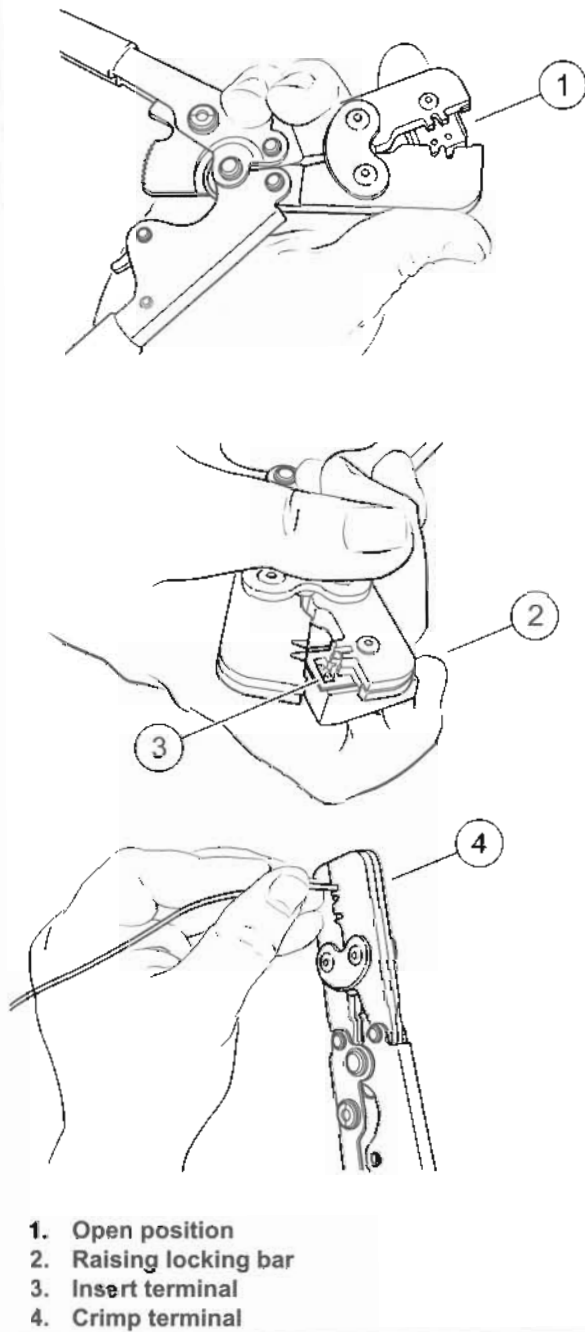

Figure A-27. Delphi Micro-64 Sealed Connector: Terminal in Crimper
2. See Figure A-27. Squeeze the handles of the **TERMINAL CRIMPER** (Part No. HD-45929) to cycle the tool to the fully open position (1).
3. Raise locking bar and barrel holder by pushing up on bottom tab with index finger (2).
4. With the crimp tails facing upward, insert terminal through locking bar into front hole in barrel holder (20-22 gauge wire) (3).
7. Squeeze handle of crimp tool until tightly closed (4). Tool automatically opens when the crimping sequence is complete.